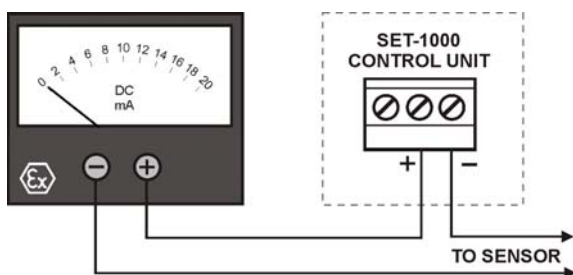

Figure 8. Sensor current measurement
- 3.3 Connect mA-meter as in figure 8.